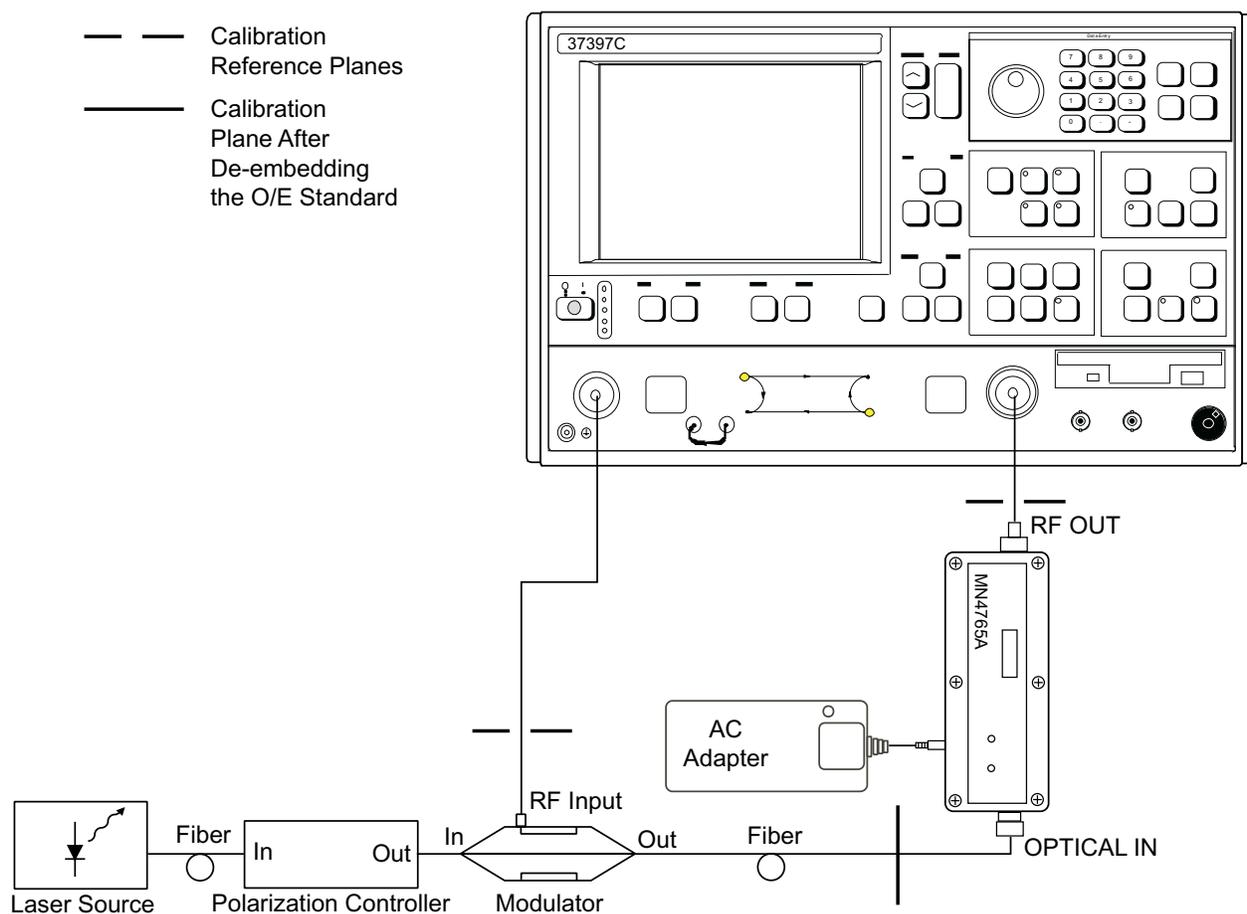

Figure 2-3. MN4765A E/O Measurement Setup
Connect the MN4765A Calibration Module to the 37397C Vector Network Analyzer, shown in Figure 2-3, as follows:
- Step 4.** Connect the modulator DUT to the MN4765A photodiode in series as shown in Figure 2-3.